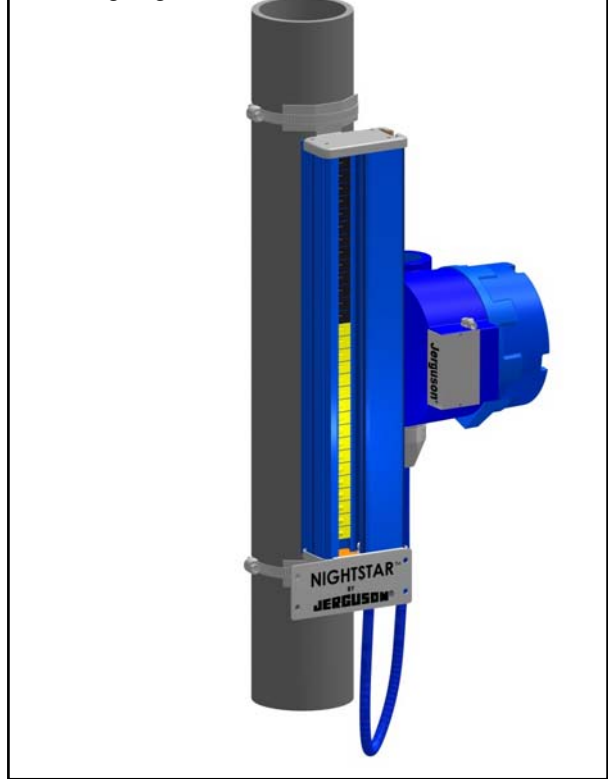

Figure 1
- 1) Loosen the hose clamps provided and place one around the top and bottom of the magnetic gage chamber. (See *Figure 1*).